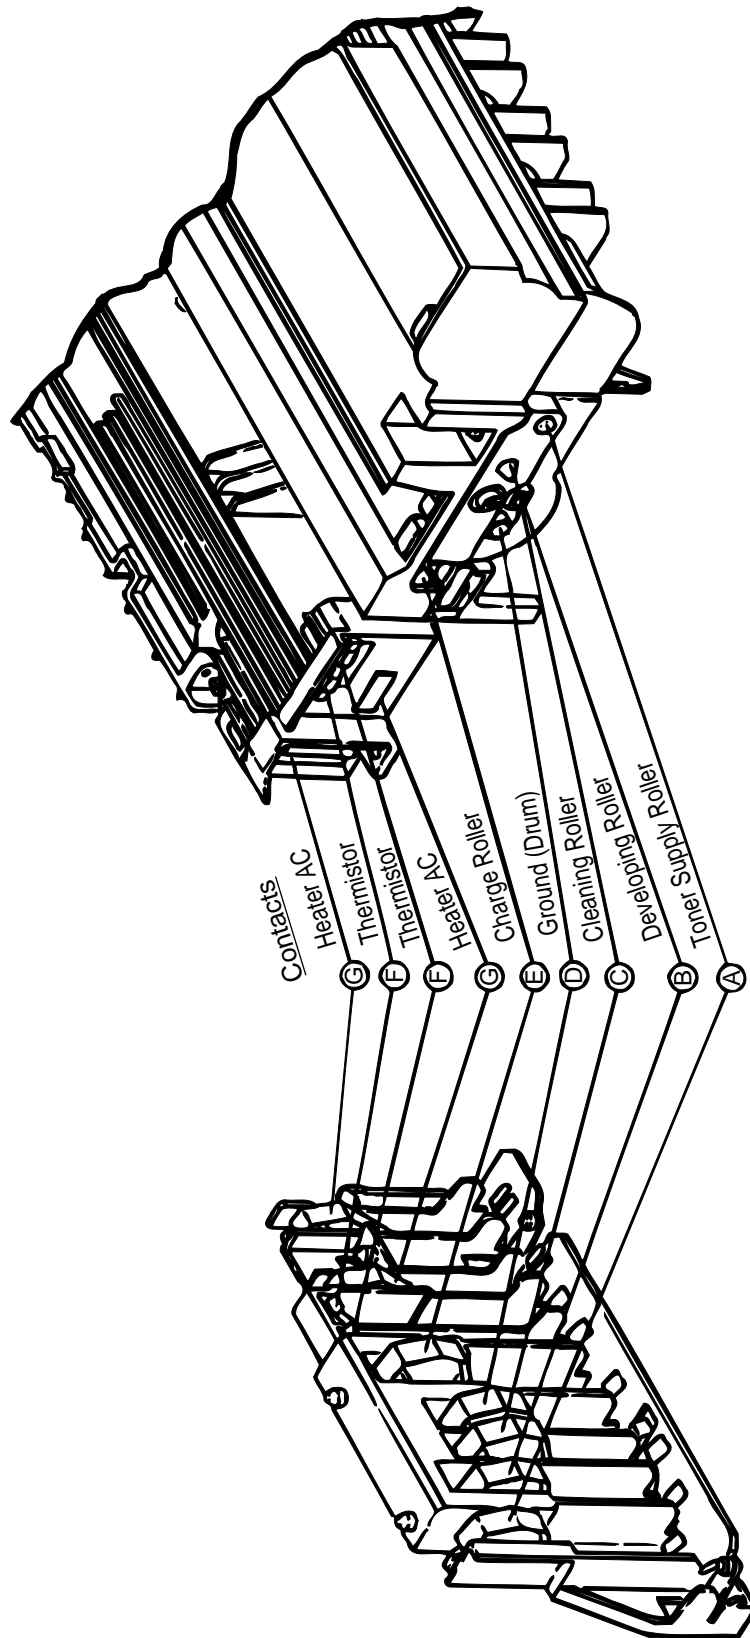

Figure 6-4
- ▼ Yes Check the heat contacts of the fusing unit and the contact assembly for poor contact (see Figure 6-4 contact ㉔).
▼ Yes Are the contact of the developing roller and the contact of the toner supply roller of the image drum cartridge in contact with the contact assembly properly (see Figure 6-4 ① and ②)?